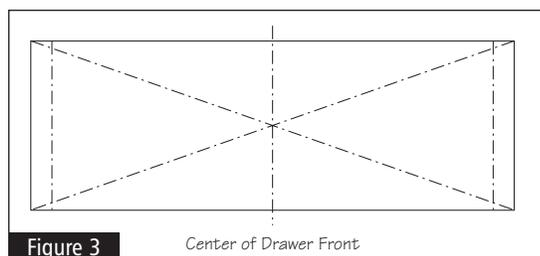

Figure 3
- 3** Measure the inside width of the drawer opening on the cabinet frame. Subtract 1/2" from this measurement then divide by 2. Mark a line on each side of the drawer front this distance from the center of the drawer front. See Figure 3.